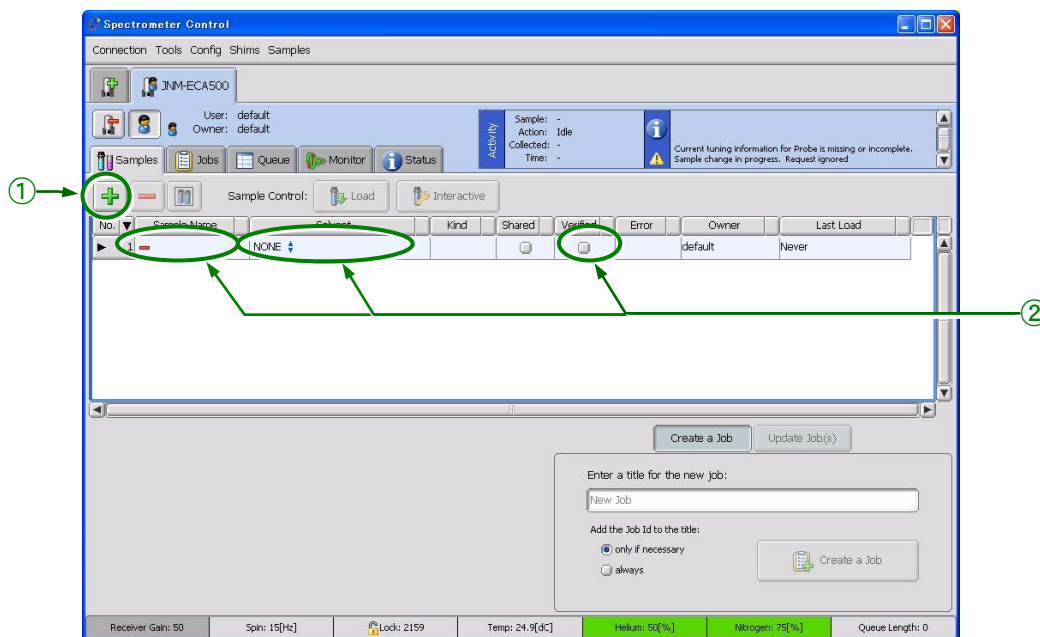

Fig. 1.9 Samples tab
1. Click the  button located at the top left in the Samples tab (Fig. 1.9 ①).
2. Enter the sample name in the Sample Name box. After selecting the deuterated solvent that is presently used from the Solvent box, select Verified (Fig. 1.9 ②).